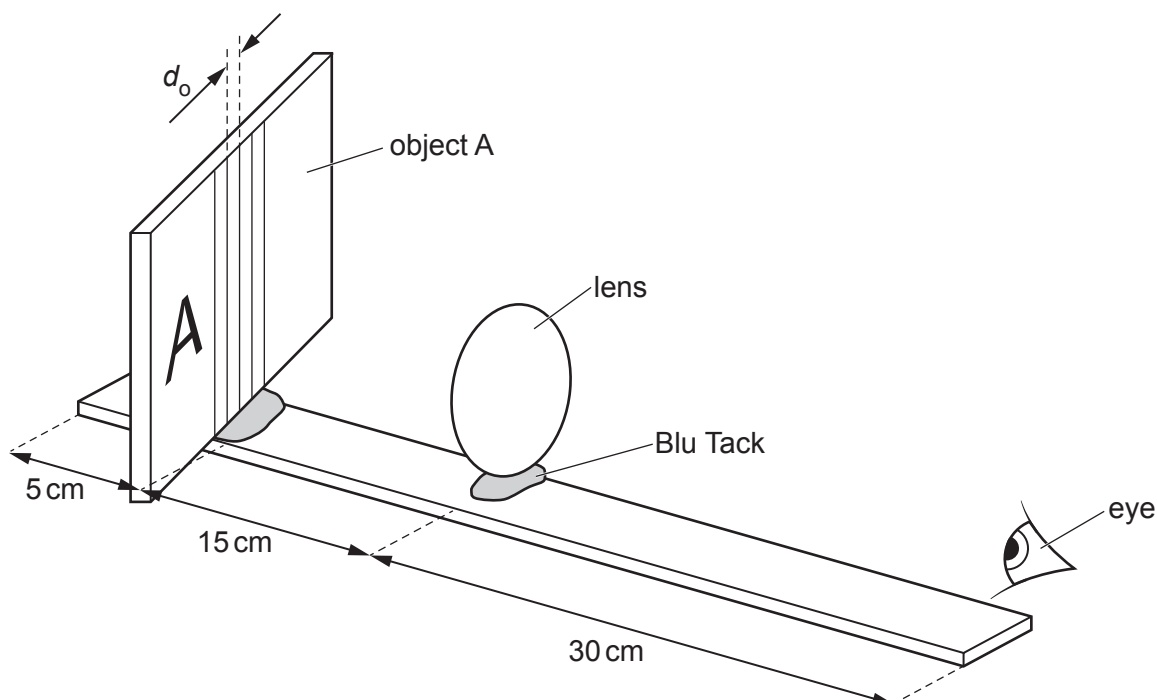

Fig. 3.1
1. Object A may be made using a piece of rigid white card approximately 15 cm × 10 cm. Five vertical parallel lines, 5.0 mm apart, should be marked on the card using a fine tipped (0.5 mm) pen. The centre of the five lines should be at the centre of the card. A small piece of Blu Tack should be attached to one side of object A so that it is able to stand vertically on the half-metre rule at the 5.0 cm mark without falling over, as shown in Fig. 3.1. The sides of the object should be perpendicular to the edge of the ruler. The object should be labelled with a large 'A'.
At the changeover the supervisor should restore the apparatus to the configuration shown in Fig. 3.1.